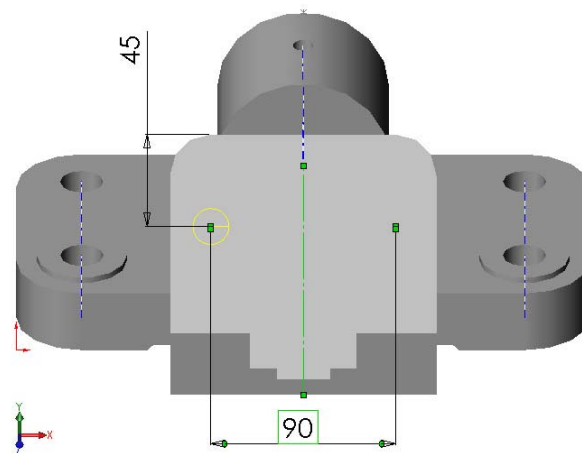

Figure 36 Slot hole placement.
48. Sketch a centerline and a point for the other hole. Add Symmetric  relation between two points and centerline. Dimension the hole centers as shown in figure 36.